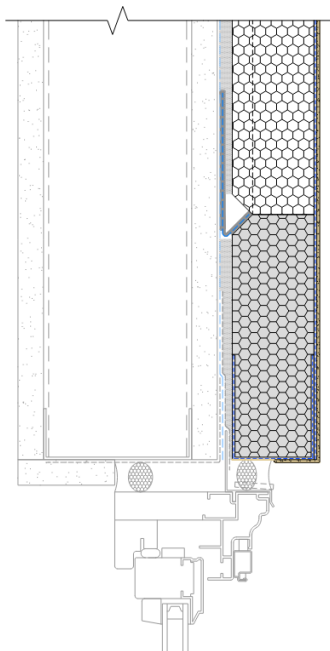

Figure 4
5. Trim any excess mesh hanging off the beveled edge (See Figures 4 and 5).